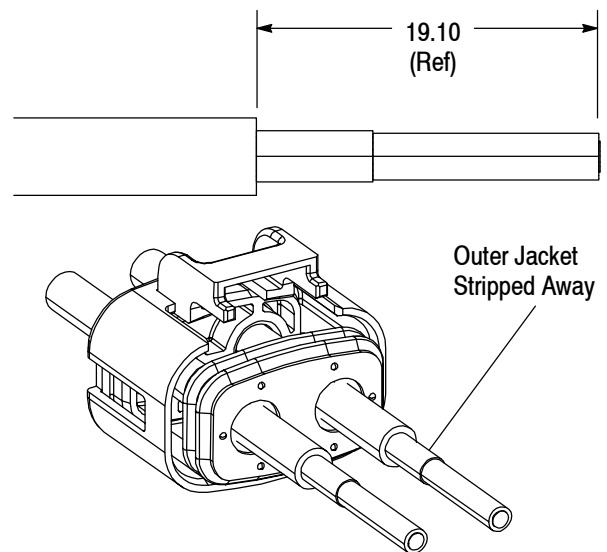

Figure 4
3. Strip the outer jacket further so that the combined exposed strip length of braided cable shield and conductor insulation is 19.10 mm (ref). See Figure 4.
- Changed dimensions in Figures 4, 8, and 10